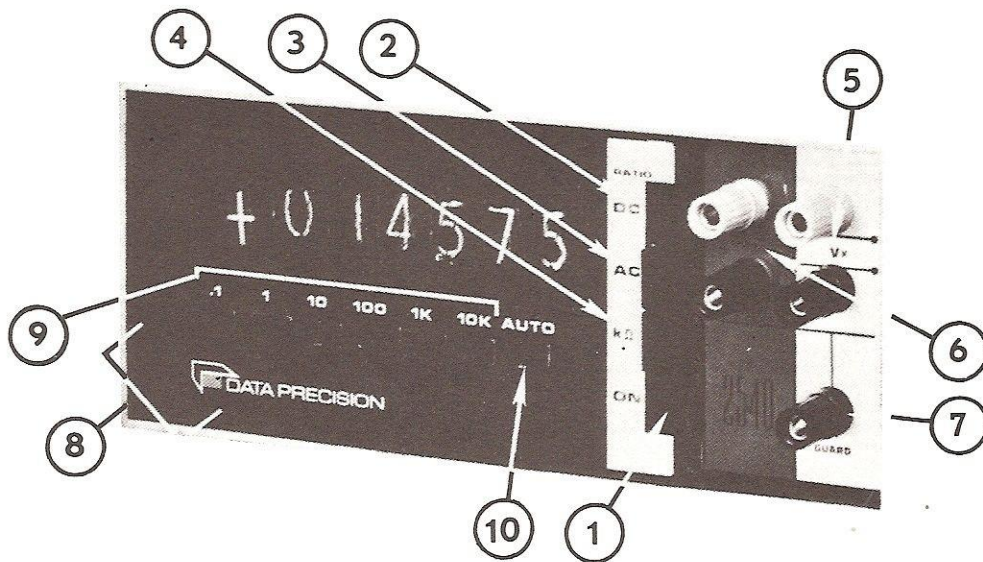
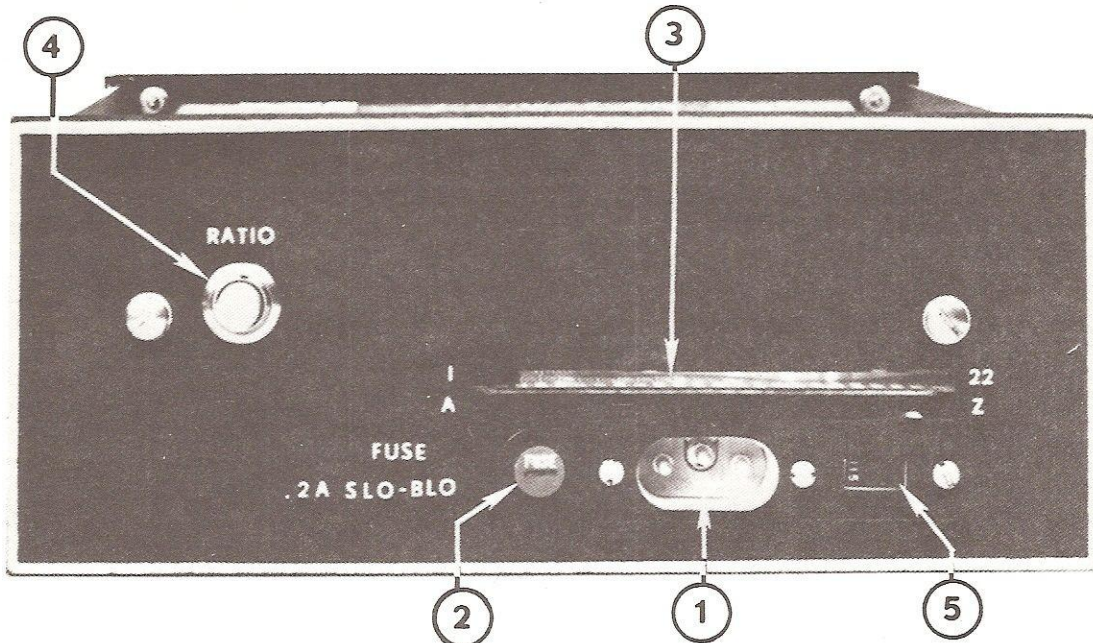

Figure 2-1. MODEL 2500 DMM Front Panel Controls and Indicators
Figure 2-2. MODEL 2500 DMM Rear Panel Controls and Indicators
The front panel controls and indicators are identified in Figure 2-1 and the functions described in Table 2-1. The rear panel controls are identified in Figure 2-2 and described in Table 2-2.
1. Press RATIO push button at Rear Panel (Figure 2-2). Observe corresponding lamp lighted on front panel.